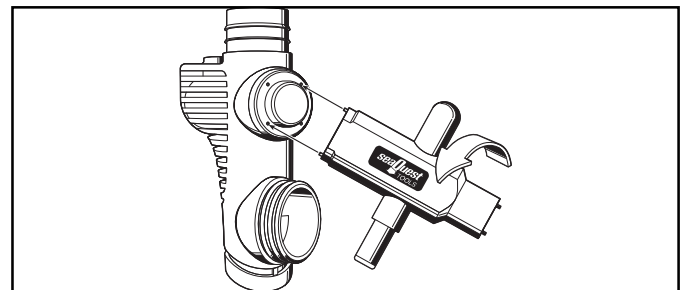

Figure 2
1.1.9 Mate both pins on the large end of a T-Tool (P/N 42314) into two opposing holes in the inflator bezel(24). (See Fig. 2.) While holding the tool securely engaged, turn the bezel counter-clockwise to loosen and remove the bezel with the inflator valve subassembly (items 18-24). Remove and discard the screen(18).